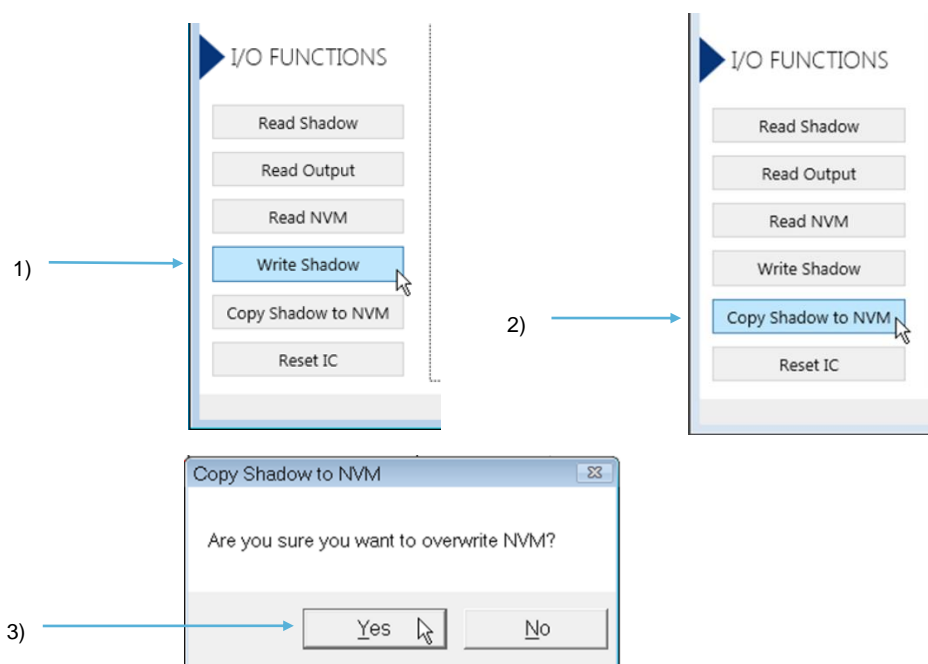

Figure 20. Writing the Configuration into the RAM Shadow and NVM
1. Click the “Write Shadow” button to download the RAM Shadow data into the IC (see Figure 20).